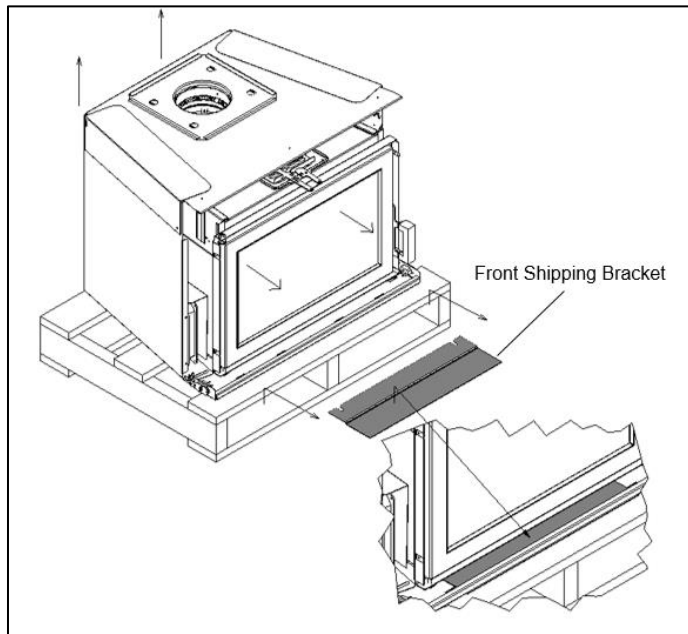

Figure 3-4: FUSION Front Shipping Bracket
- Unfasten and remove the front shipping bracket (Figure 3-4). Note that after removal of the front shipping bracket, the firebox of the FUSION will be able to slide forward.
- Remove the screws from the back of the pallet to free the circulating chamber (Figure 3-4).